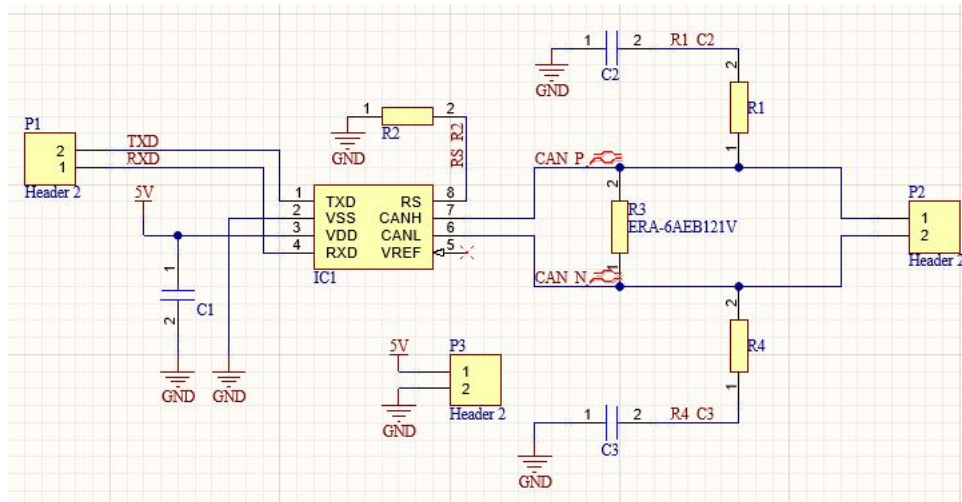

Figure 17: CAN transceiver schematic example
3. Your final schematic should look something like what is shown in Figure 17.